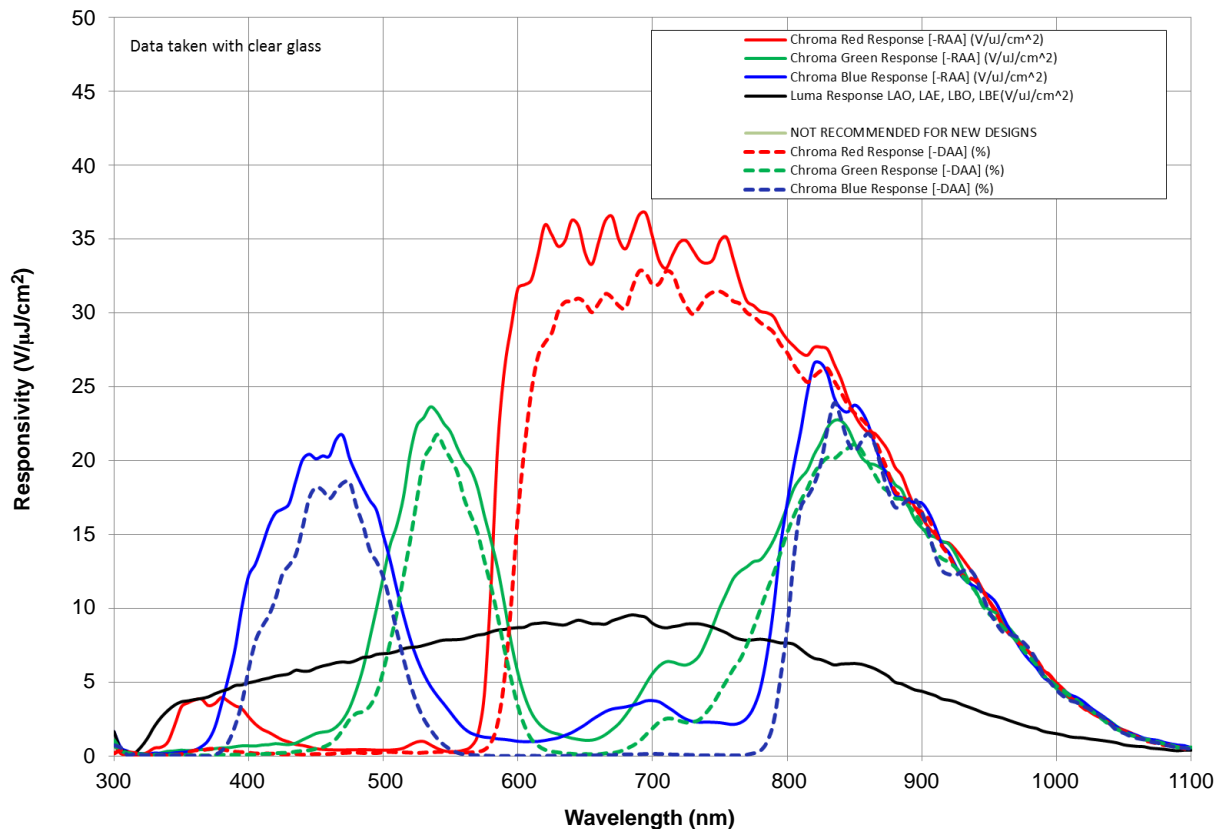

Figure 12. Typical Responsivity for KLI-4104-RAA-CB Configuration (Sealed Clear Glass)
2. With color filter. Values specified at filter peaks. 50% bandwidth = ±30 nm. Color filter arrays become transparent after 710 nm. It is recommended that a suitable IR cut filter be used to maintain spectral balance and optimal MTF. See Figure 12.